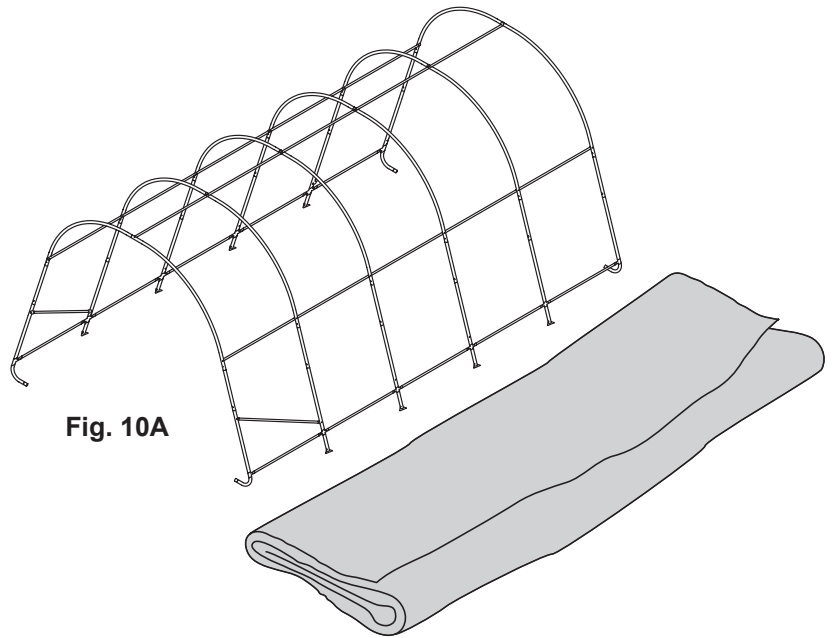

Fig. 10A
STEP 10: INSTALLING THE COVER ON THE FRAME: Fig. 10A, 10B, 10C & 10D
1. Lay the cover on the ground next to the frame with the inside of the cover (the side with the pipe pockets) facing down and the webbing on the front and rear of the corner of the building. Position the cover so that it is centered on the frame, front to back. Fig. 10A